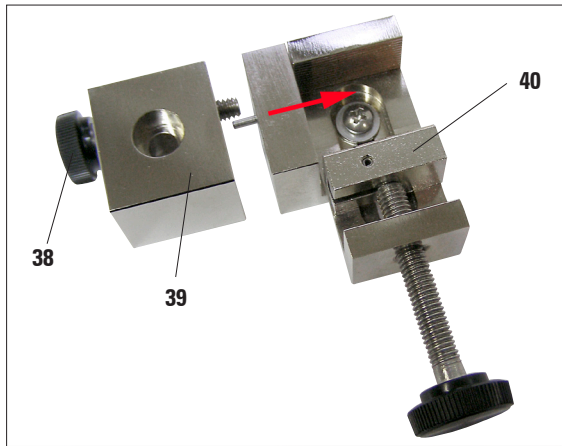
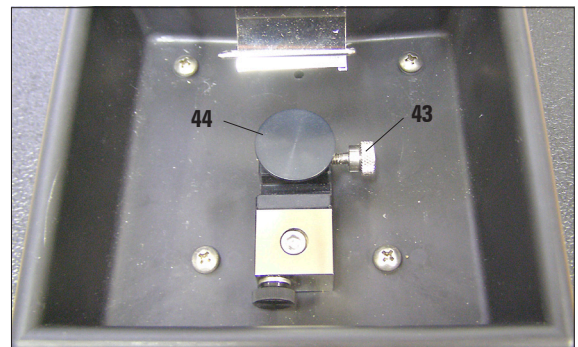

Fig. 23
Fig. 25
- Unscrew the knurled screw (38) completely. You can now take the specimen clamp (40) off of the base plate (39) (Fig. 23).
- Attach the rotating stage assembly (42) to the base plate so that the pin (41) fits into the bore (45) provided.
- Then, screw the knurled screw (38) into the thread and tighten it, thus fastening the rotating stage assembly (41) to the base plate (39).
- Install it in the main specimen bath (23) as described in Chap. 4.7 (Fig. 25).